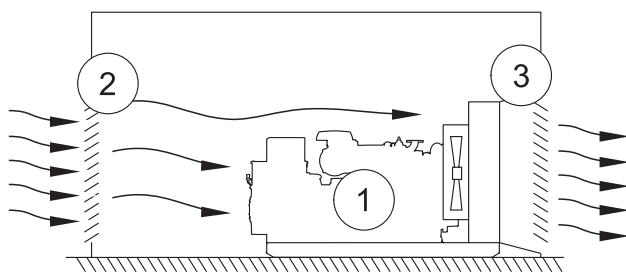
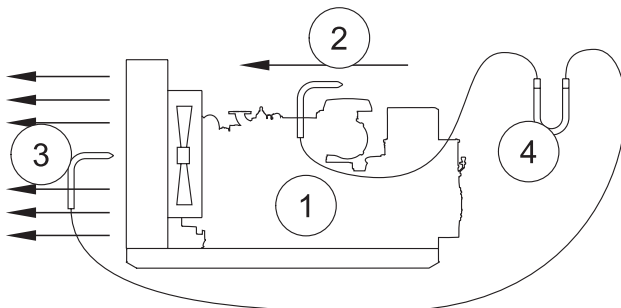
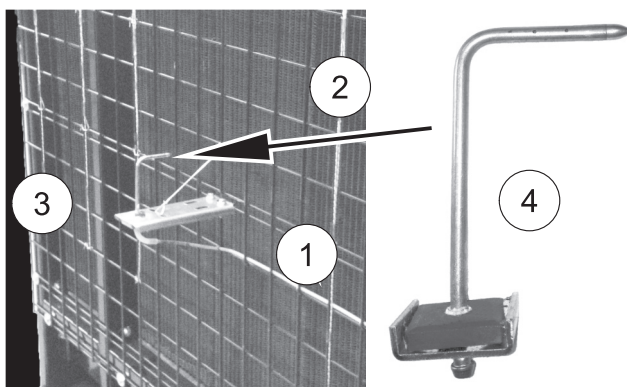

Figure 43
Figure 44
Figure 45
Figure 43 shows the cooling air circuit. Although the exact details of the layout will need to vary from installation to installation, the basic air circuit will remain the same. The marine genset utilises a pusher fan, which draws cooling air from the inlet (figure 44 item 2) over the generator and engine (1), and then pushes through the radiator and charge air cooler. Typically the exhaust from the radiator and charge air cooler then exit the engine room via a vent to outside (3). Cool air enters the engine room from outside through another set of vents.
The radiator cooling system is designed to operate with a maximum duct restriction pressure of 127 Pa (0.5 in H₂O). The pressure is measured from a location in-front of the fan (typically along the length of the engine) to a location directly in-front of the radiator outlet, figure 44 item 3 and figure 45. In this way the total pressure over the cooling pack (2) is measured, including both the restrictions encountered in drawing the air into the engine and the restriction encountered in air exiting the engine room. When designing the engine room ventilation a pressure restriction target of 63.5 Pa should be aimed for, although lower is better.
In order to measure the duct restriction of an installation, static pressure tubes will be required. Use of any other means is likely to give inaccurate results. A water manometer (4) is normally sufficient for measuring the pressure. The static tube should be aligned parallel with the air flow. A fine thread on a stick is a useful tool in identifying the direction of air flow over the engine. (Care should be taken to keep it away from rotating parts, including the fan) figures 44 and 45 shows typical locations of the static tubes used for taking pressure readings.